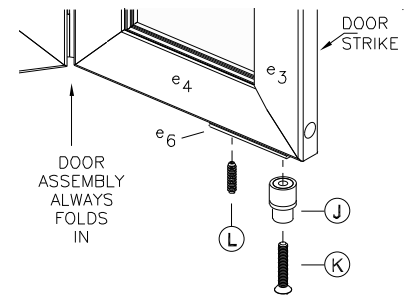

figure 4
7. Before proceeding with Door Assembly installation, note that the Door Assembly (E) must always fold in toward interior of shower enclosure (see explode view - sheet 2). Position Door Assembly on floor the way it will be installed on enclosure (remember, unit must fold into enclosure). Install Bushings (J), Bushing Screw (K) and Set Screw (L) onto top and bottom Slide Pieces (e6) as shown in figure 4. Before proceeding, make sure Pivot Bushing (J) pieces are Assembled as shown in exploded view - sheet 2.